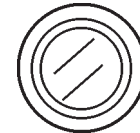

Figure 53. Main Circuit Breaker ON Lamp
15. Verify that the main circuit breaker "ON" lamp (Figure 53) is lit (ON).